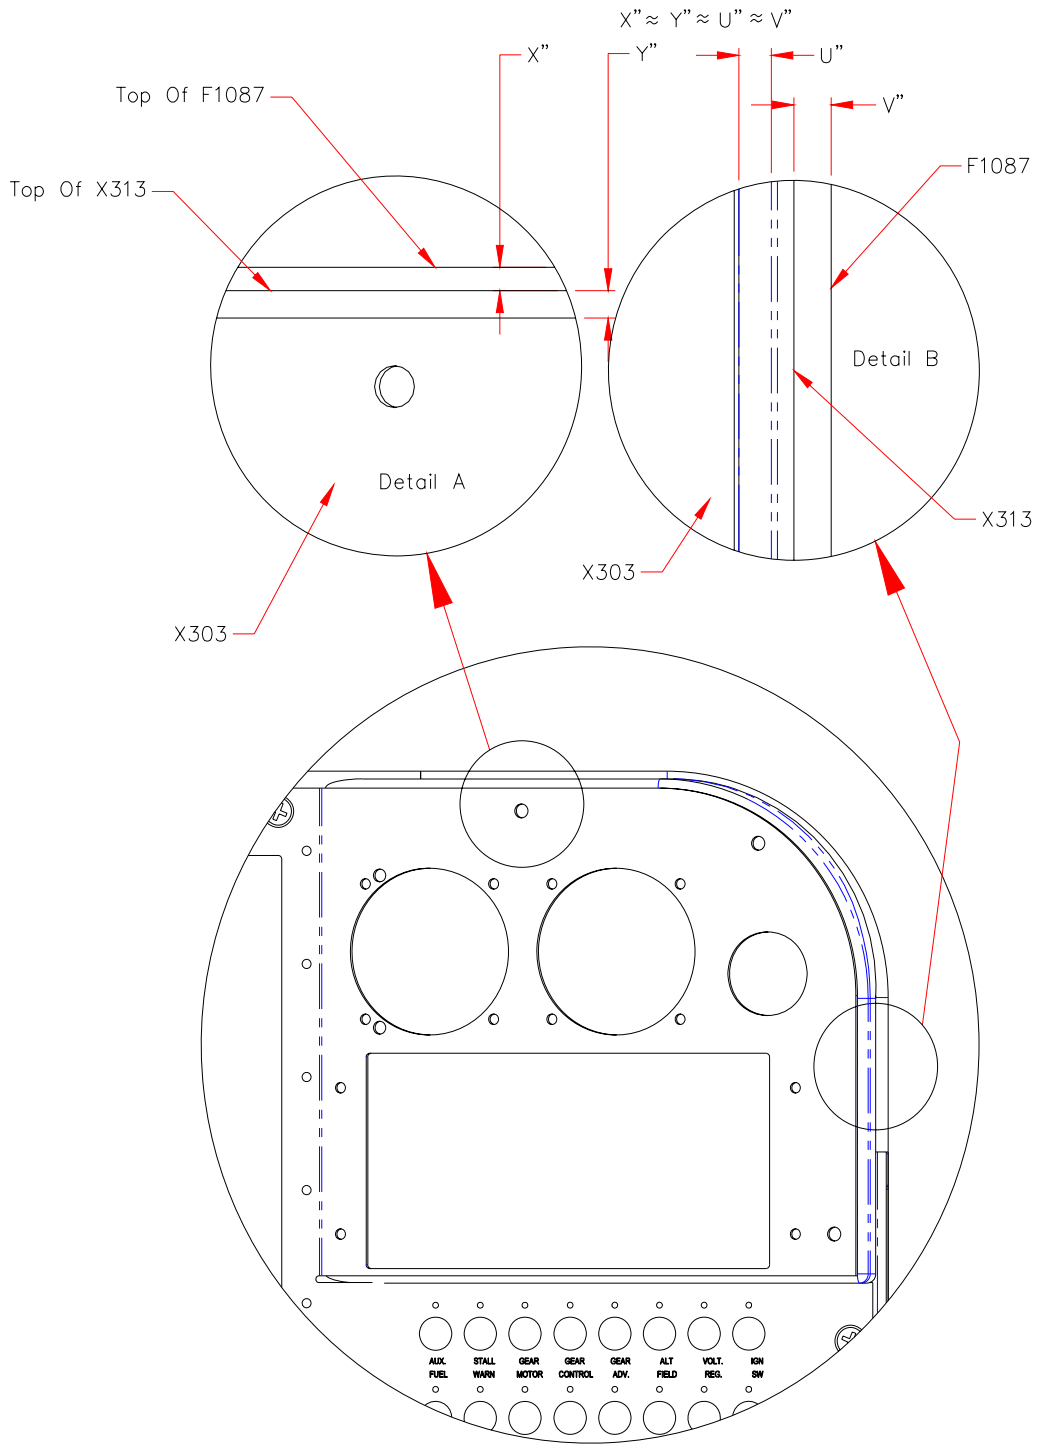

**FIGURE 2**
2. Back mark and drill the hole required to install the indicated nutplate per Figure 2